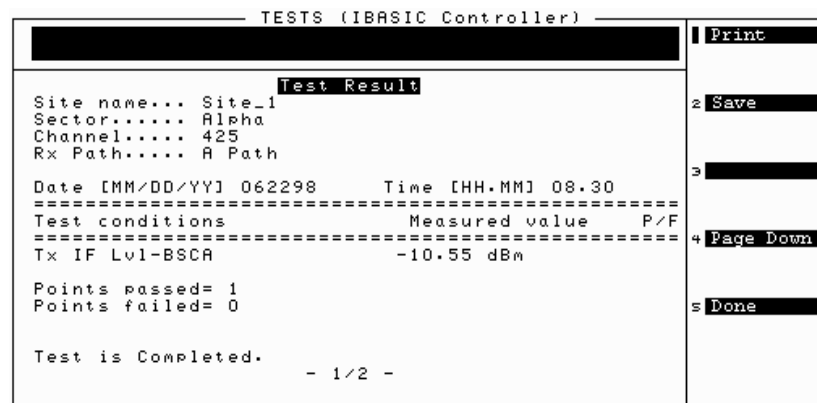

Figure 27 Test Results Table for TX IF Level - BSCA Measurement
- Press k1 (Proceed) to proceed to the test results table when you are finished testing on this screen (see figure 27).